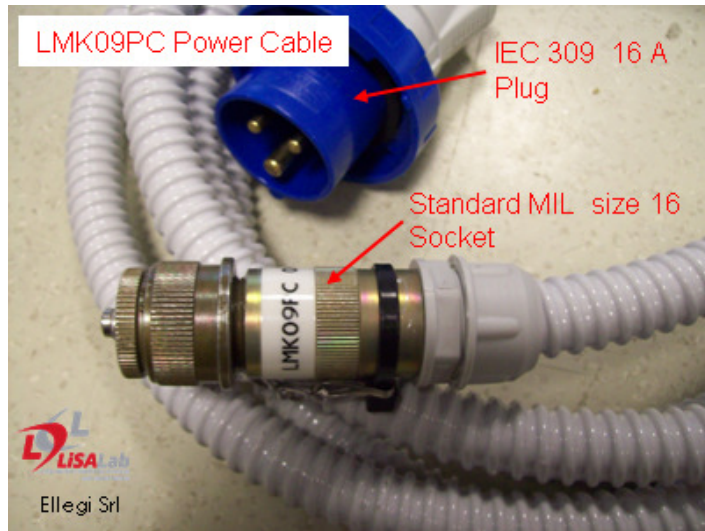

Figure 2: LISAMOBILE LMPC power cable and its connectors.
1. Power Cable LMPC: the power cable LMPC is used to connect the power base PBLM to a power line. One end of the power cable has a standard IEC309 16A 6AH 1PH+N plug power connector and the other end has a 3 pins standard MIL size 16 socket (Figure 2).